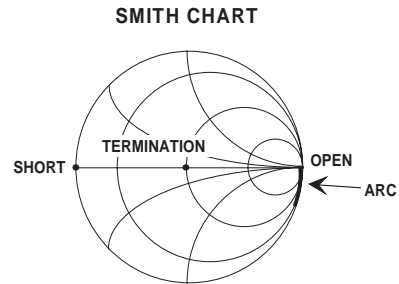

Figure 8-6. Smith Chart Display 2
3. *Connect the Open.* An Open appears as an arc on the chart's right edge. This is due to the fringing capacitance of the Open standard (Figure 8-6).